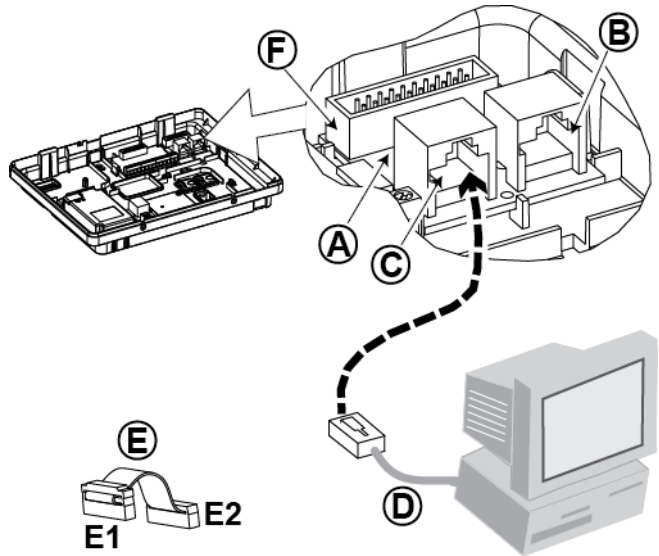

Figure 4.7 –Dual RS-232 Module Mounting
1. To install the DUAL RS-232 module into the control panel, press it into the marked location (see Figure 4.7) until a click is heard.
3. Connect a local PC to the DUAL RS-232 module connector (B) or (C), as shown in Figure 4.7.